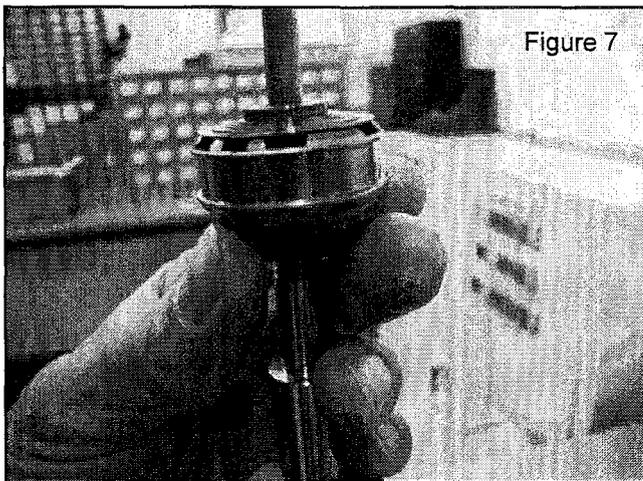

Figure 7
23. Hold the tip of a phillips head screwdriver against the end of shaft. Hold the piston assembly under the top-out plate and lift upwards (Fig. 7). Slide the piston assembly onto the shaft of the Screwdriver. Pull the Screwdriver away from shock shaft while supporting the piston assembly. Slide a 12" tie wrap through the entire piston assembly. Secure the two ends of the zip tie together and remove the screwdriver. There are many pieces to the piston assembly, and the assembly order of these pieces is critical to the proper performance of your shock. This step ensures that the proper order is kept. Place piston assembly on a clean, lint free paper towel.